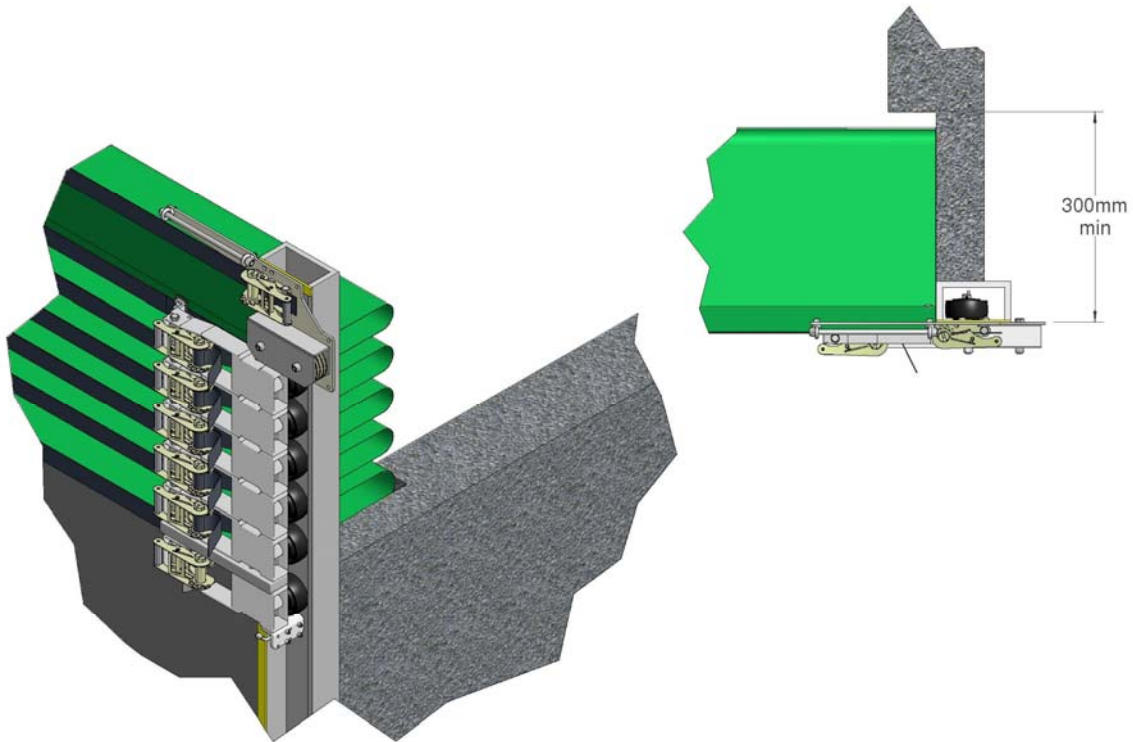

Figure 5
5. There must be a minimum of 300mm clearance either side of the tracking to provide sufficient space for the door panel to fold and to prevent damage by abrasion, see Figure 5. Check that there are no obstructions (gutters, downpipes, etc.) to hinder the operation of the door.